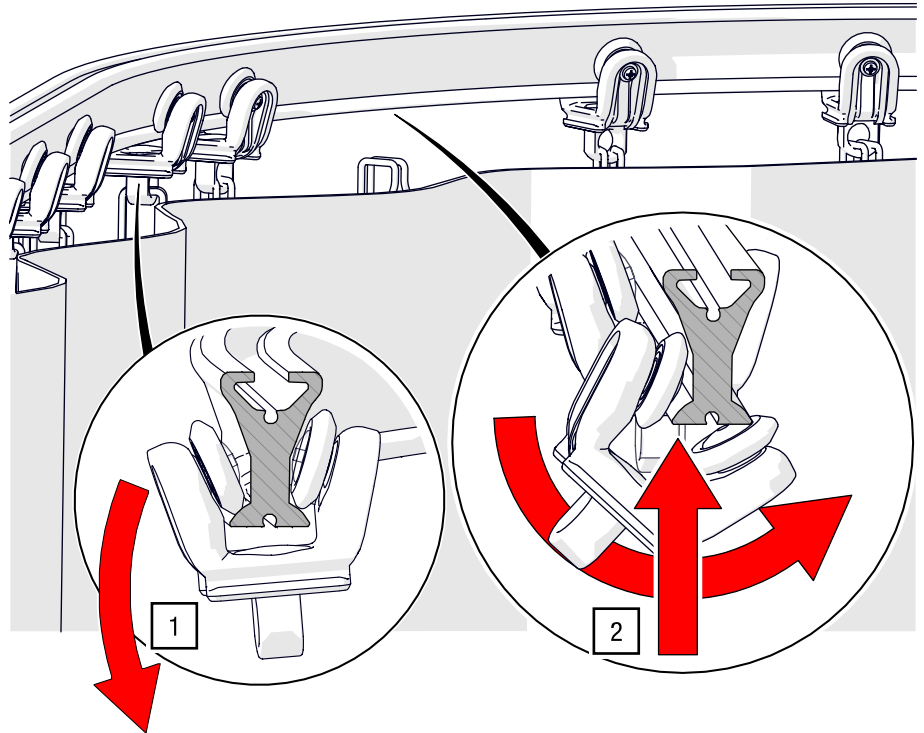

Fig. 68: Retrofitting double-wheel runner
1. Disengage the existing double-wheel runner by positioning it diagonally and pulling it downwards (see Fig. 68).
2. Take the new double-wheel runner, push it diagonally onto the profile, and turn it in the direction of inclination until it clicks into place (see Fig. 68).